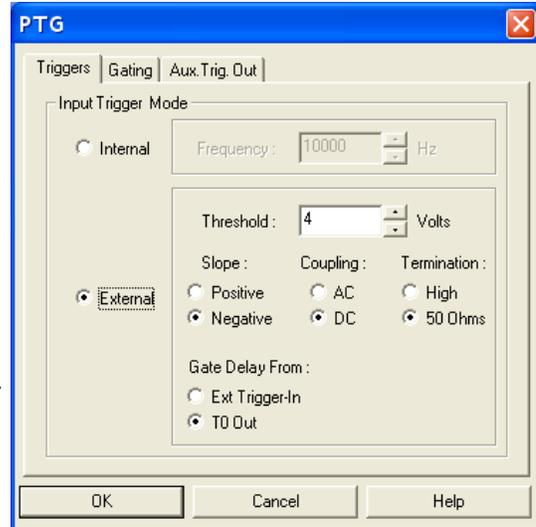

Figure 134. PTG/Triggers tab
3. Select **PTG**. Then click on the **Setup Pulser** button. The **PTG** dialog (Figure 134) will open. *If PTG is grayed out on the Pulsers dialog, PTG support has not been installed.*